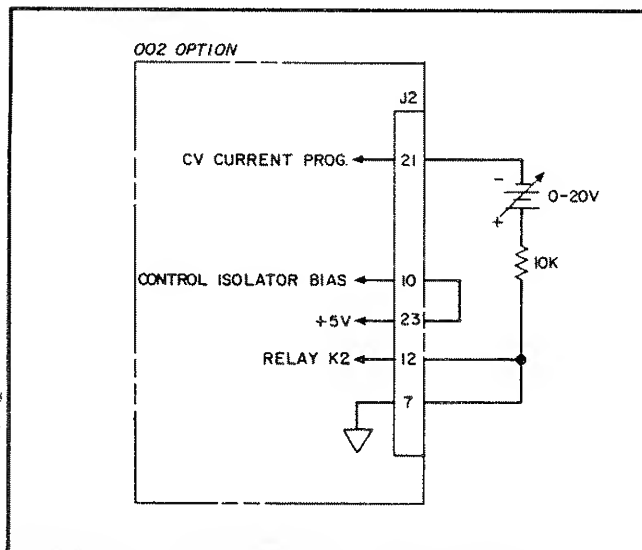

Figure A-10. Troubleshooting Current Programming of CV Mode
- Check  $+5$  V supply and proceed to the test set-up shown in Figure A-10 and/or A-11.